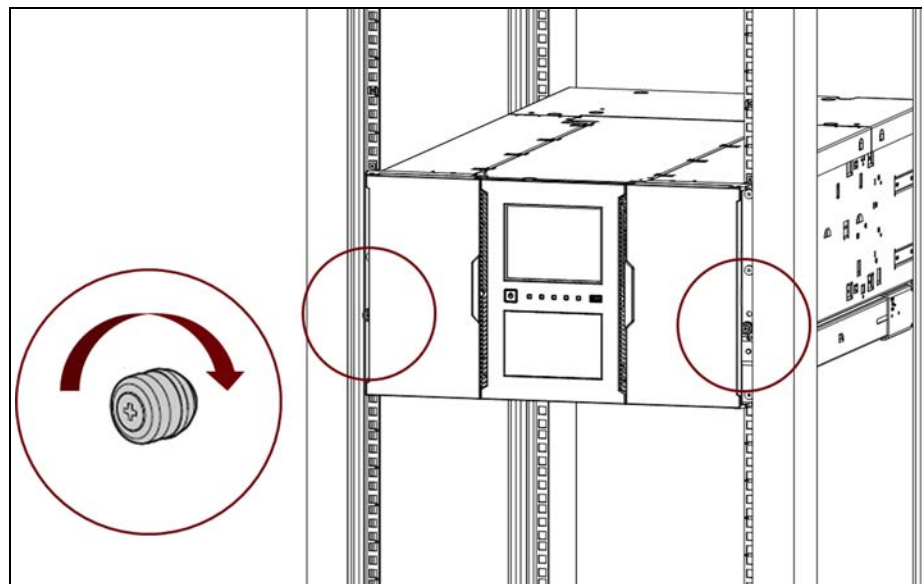

Figure 11 Tighten the captive thumbscrews.
1. From the front of the library, loosen the thumbscrews on both sides of each library module (see Figure 11 on page 27).
- b. Slide the alignment mechanism down (2). If you encounter resistance, adjust the position of the upper module so that the pin on the alignment mechanism slides into the hole in the lower module.
- c. Tighten the thumbscrew on the alignment mechanism (3).
4. From the front of the library, tighten the thumbscrews of each module using your fingers (see Figure 11 on page 27).